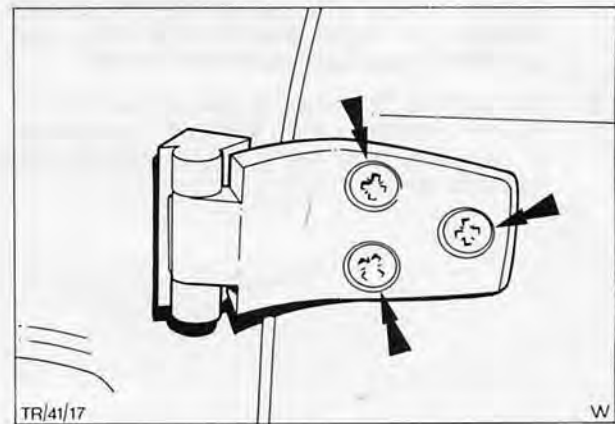

Fig. 50. Rear door hinge screws
3. Mark around hinge locations on door, remove screws Fig. 50, from hinges and lift off door.